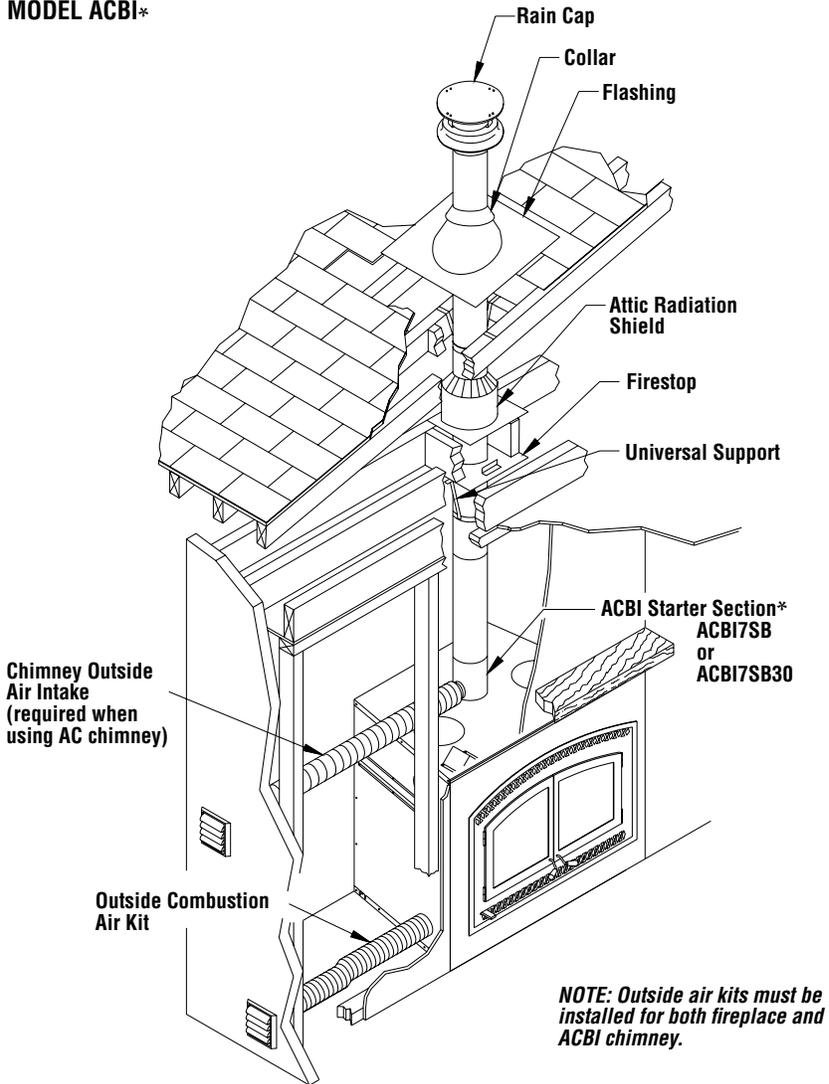

Figure 23
3. For Secure Temp® S2100+ / Nova Temp HT6000+ / Secure Temp GX chimneys*, place the first chimney length on the fireplace. To lock it in place, turn 1/4 of a turn clockwise. With the ACBI chimney, you must use a starter section before installing the first chimney length (**Figure 23**). Continue installing chimney lengths making sure to lock each length in place.